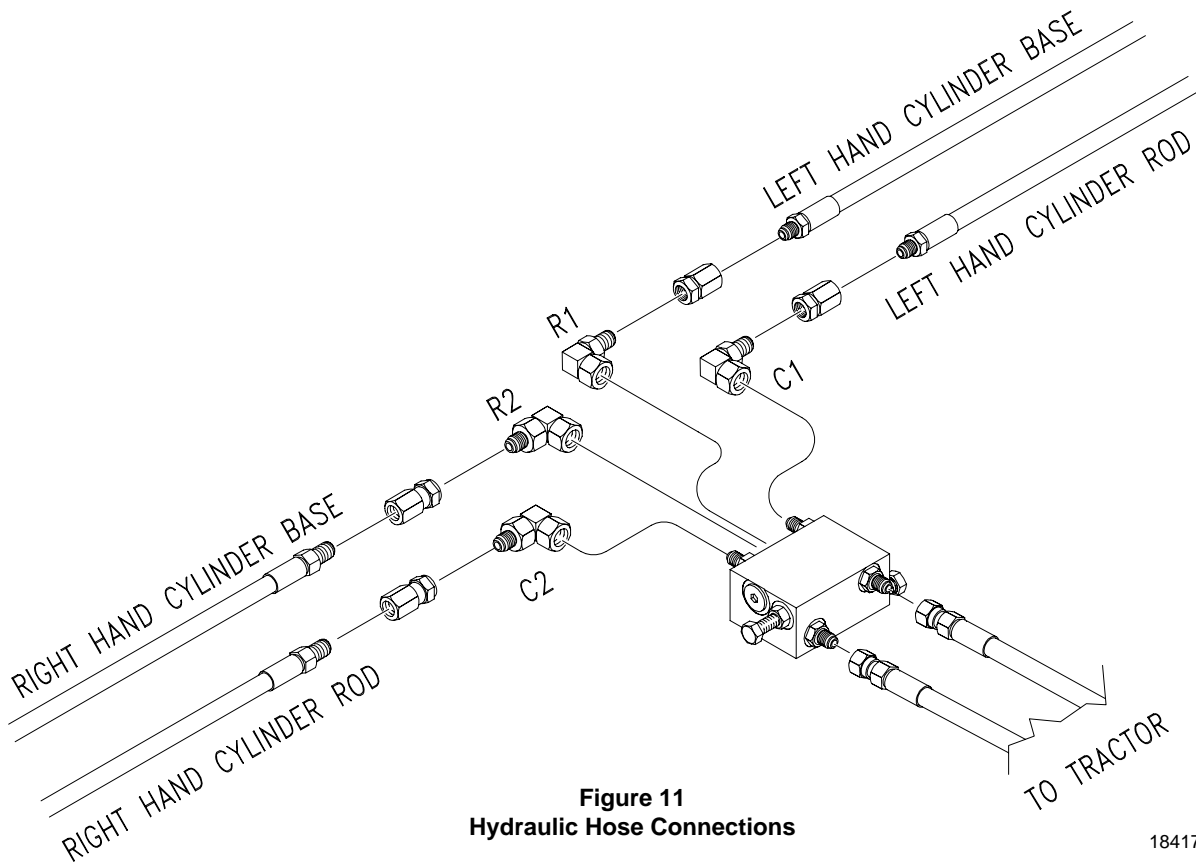

Figure 11
1. Mount sequence valve (1) on bean machine using mounting plate (2). Bolt plate to inside end of left-hand-box panel (3) using one 1/2-inch hex bolt (4).
2. Bolt valve to mounting plate with two 3/8 x 3/4-inch hex bolts and lock washers (5).
4. Use hoses provided to connect valve ports to cylinders. Refer to Figure 11 for port connections.